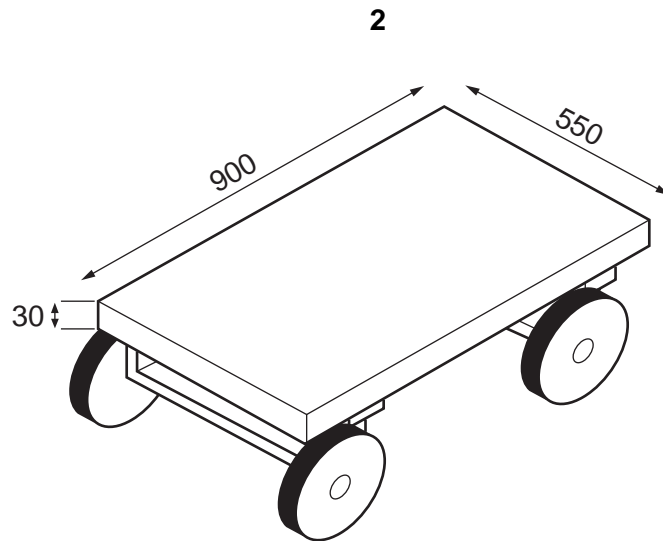
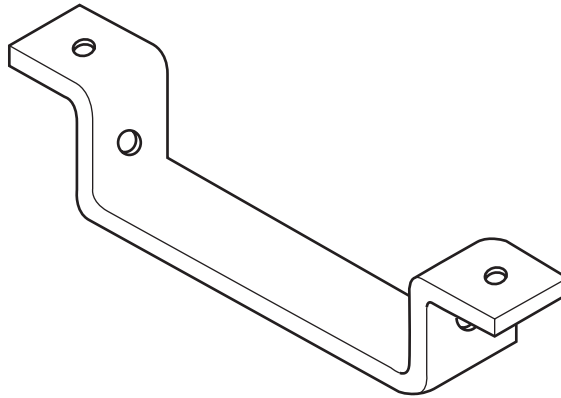

Fig. 1 (for Questions 1 and 2)
Fig. 4
- 1 The **base** of a small trolley used to collect garden waste is shown in **Fig. 1**.
- 2 The trolley in **Fig. 1** has two brackets shown in **Fig. 4** to which the axles and wheels are fixed.